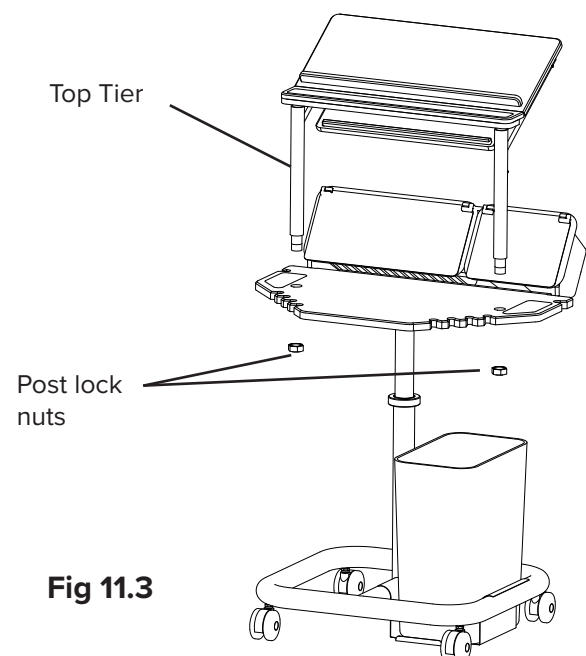

Fig 11.3
2. Use a wrench to tighten lock nuts to the Worktop and secure the Top Tier in place (Fig 11.3).